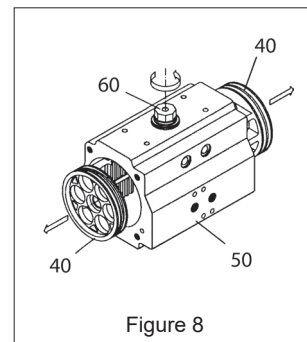

Figure 8
4. Piston (40) Disassembly, (Figure 8):